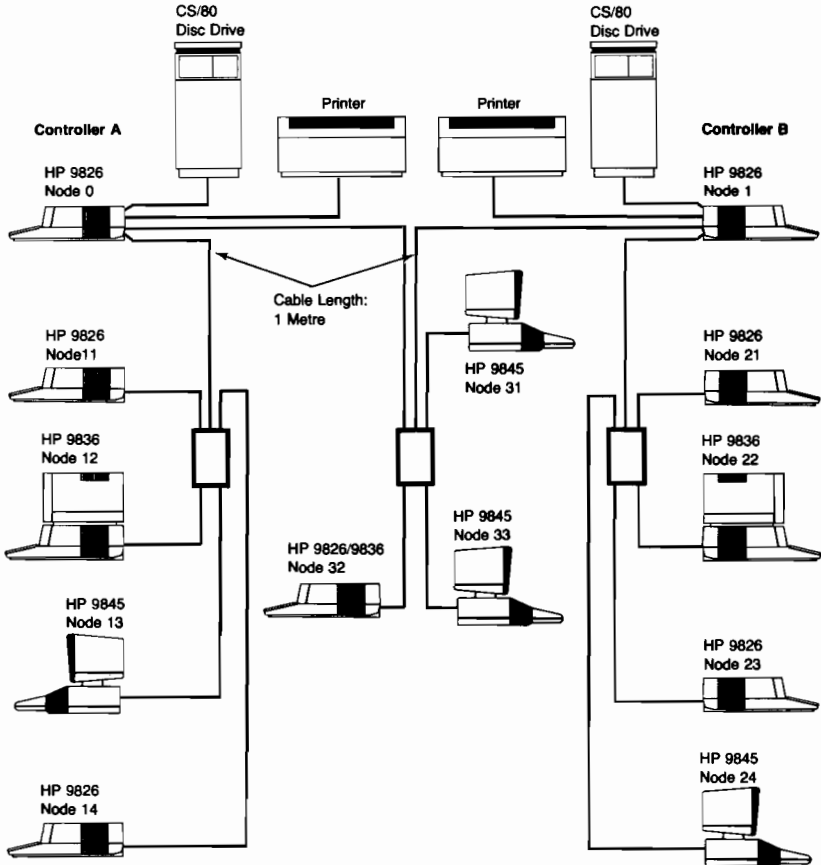

Figure 3-5. Dual Controller System Using Multiple Multiplexers
5. Multiple controller systems. Figure 3-5 is an example of a dual controller system using multiple multiplexers.